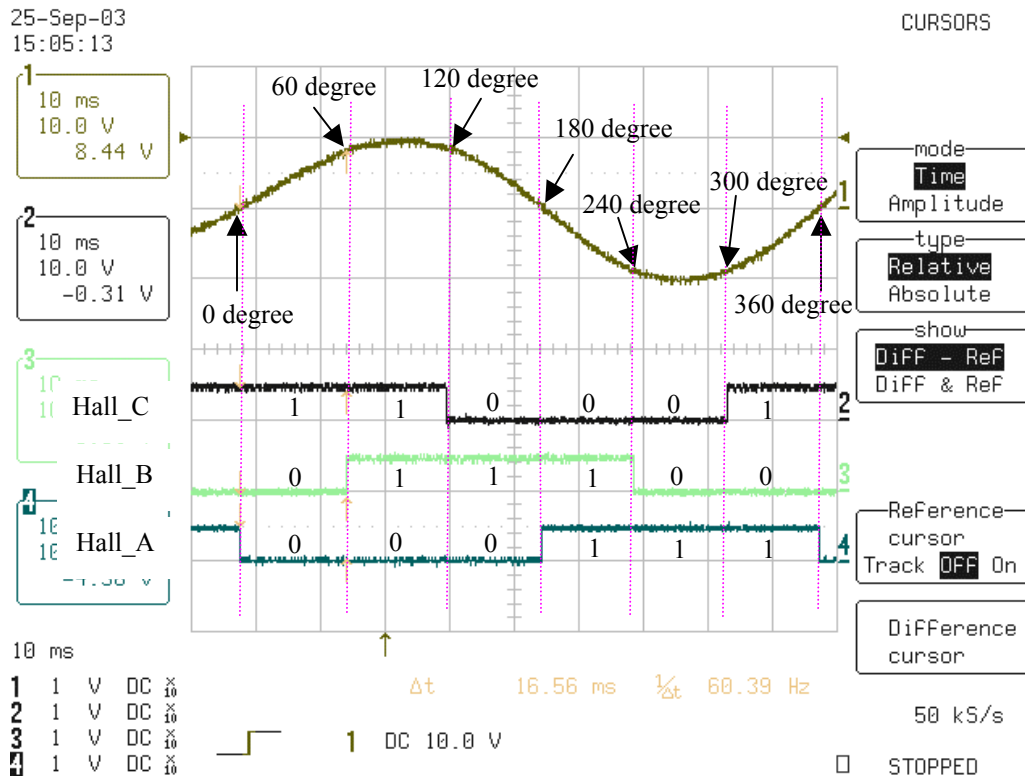

Figure 20. Sample Waveform of U-V counter EMF, Hall_C, Hall_B and Hall_A
Turn on the power and rotate the motor shaft counter clockwise at the motor front end (facing the motor front) while monitoring channel 1. If it doesn't trigger, turn the shaft faster. Adjust trigger level, delay and time/div so that you can get one entire cycle of sinusoidal waveform as shown in Figure 20.
- In the example shown in Figure 20, when the angle is 0-60 degrees, Hall CBA is 100. Type the mid angle, which is 30 degrees for this example, into the 'Mid Angle when Hall CBA is 100' field. Fill out the rest of the fields.